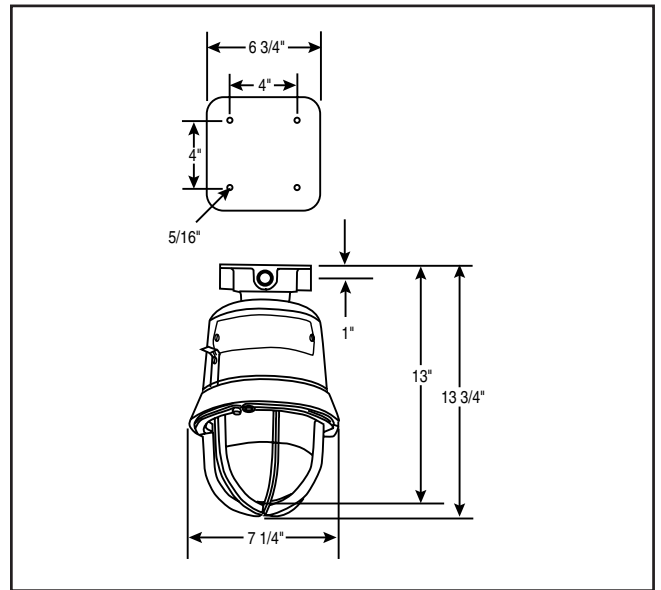

Figure 3. Detail of Ceiling Mounting
- b. **Ceiling Mount Models** (Figure 3): Mount the catalog number 116EX-C, ceiling/wall mounting module, using appropriate hardware (not supplied) suitable for the mounting surface. Proceed to step 2.